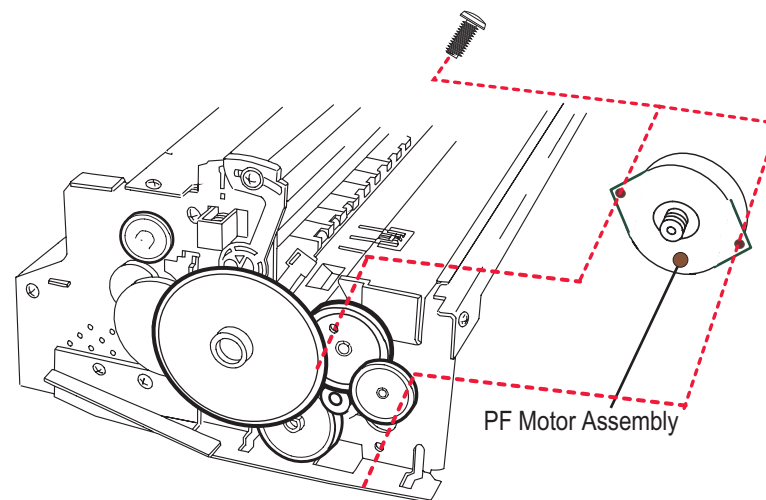

**Figure 4-14. Removing the PF Motor Assembly
- When disassembling the PF motor assembly, pull the motor assembly out of the frame a little bit and remove it, sliding it into a larger hole in the frame. (Refer to Figure 4-14.)